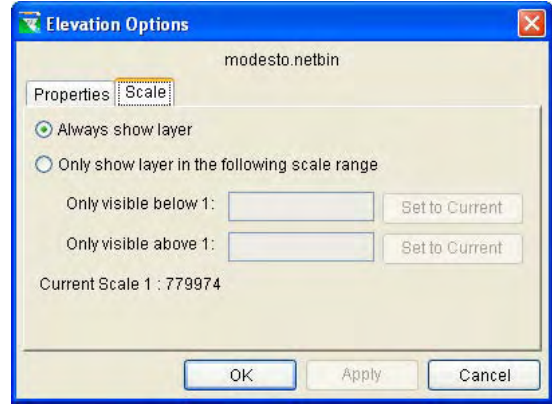

Figure C.8 Elevation Options – Scale Tab
1. Select the **Scale** tab from the **Elevation Options** dialog (as shown in Figure C.8).